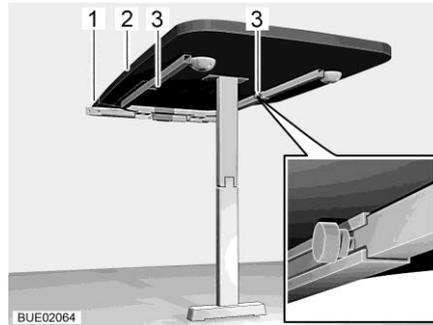

Fig. 134 Suspension table with fold-out leg
- Release two knurled screws (Fig. 134,3).
- Raise the table top (Fig. 134,2) slightly and pull it out as far as possible. The table extension has now been fully pulled out.
- Insert the table top extension (Fig. 134,1) into the table extension.
- Slightly lift the front of the table top (Fig. 134,2) and pull out.
- Remove the table top extension (Fig. 134,1) and store it securely.